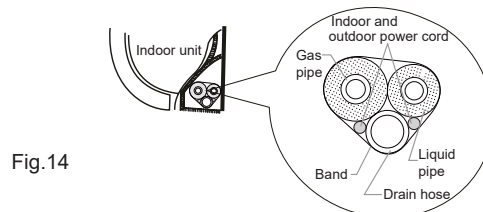

Fig.14
(1) Bind up the connection pipe, power cord and drain hose with the band.(As show in Fig.14)